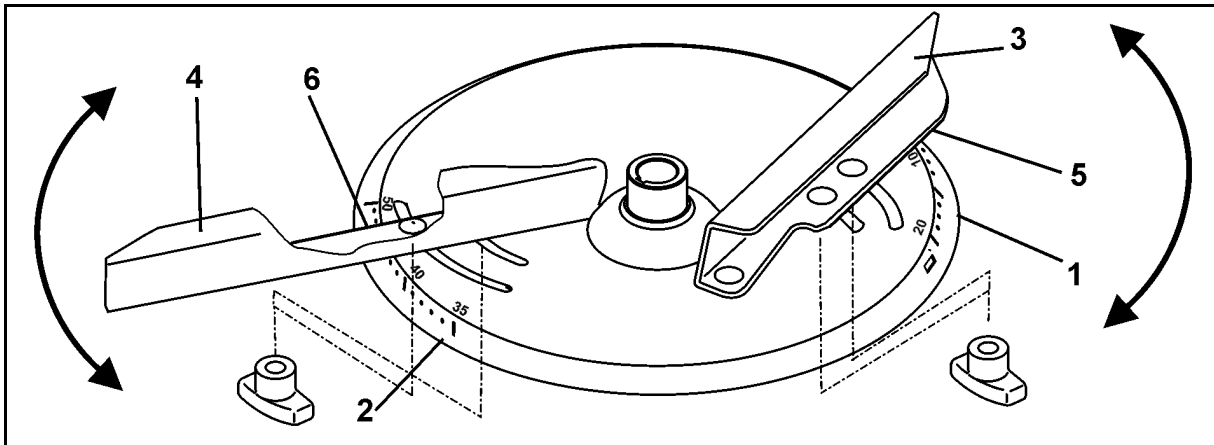

Fig. 61
Two different scales, designed so as to make it impossible to confuse them, are arranged on each spreading disc for precision setting of the individual spreading vane positions (Fig. 61/1 and Fig. 61/2).
- The shorter spreading vanes (Fig. 61/3) are assigned the scale (Fig. 61/1) with values from 5 to 28; the longer spreading vanes (Fig. 61/4) are assigned the scale (Fig. 61/2) with the values from 35 to 55.
- For the short spreading vane (Fig. 61/3), read off the set value on the read-off edge (Fig. 61/5).
- For the long spreading vane (Fig. 61/4), read off the set value on the read-off edge (Fig. 61/6).
- Swivelling the spreading vanes to a higher scale value (Fig. 61/1 or Fig. 61/2) increases the working width.